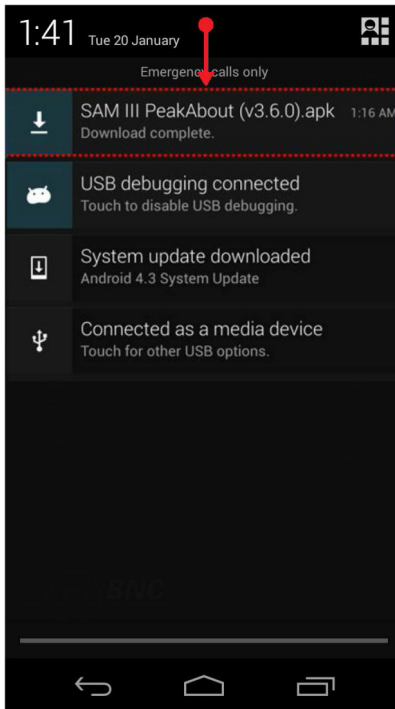

Figure 4.38. PeakAbout software upgrade, step 3
3. Open the status menu of the smartphone by touching and dragging the top menu bar (Figure 4.38).